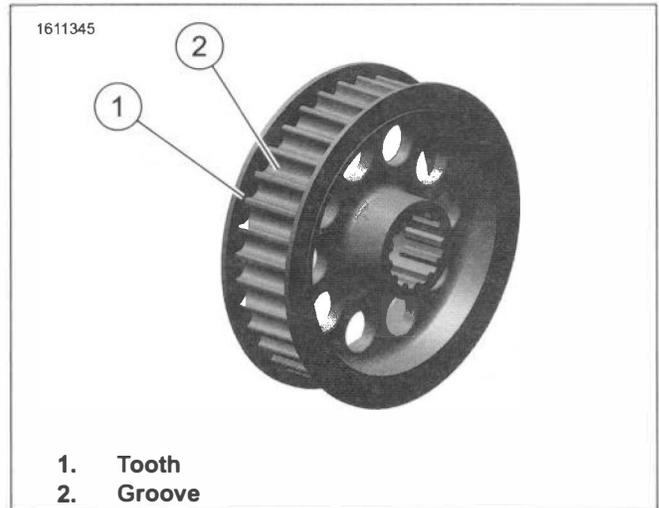

Figure 2-24. Rear Sprocket
1. See Figure 2-24. Inspect each tooth (1) of rear sprocket for:
2. Check for worn chrome plating. Drag a sharp object across the bottom of a groove (2) using medium pressure.